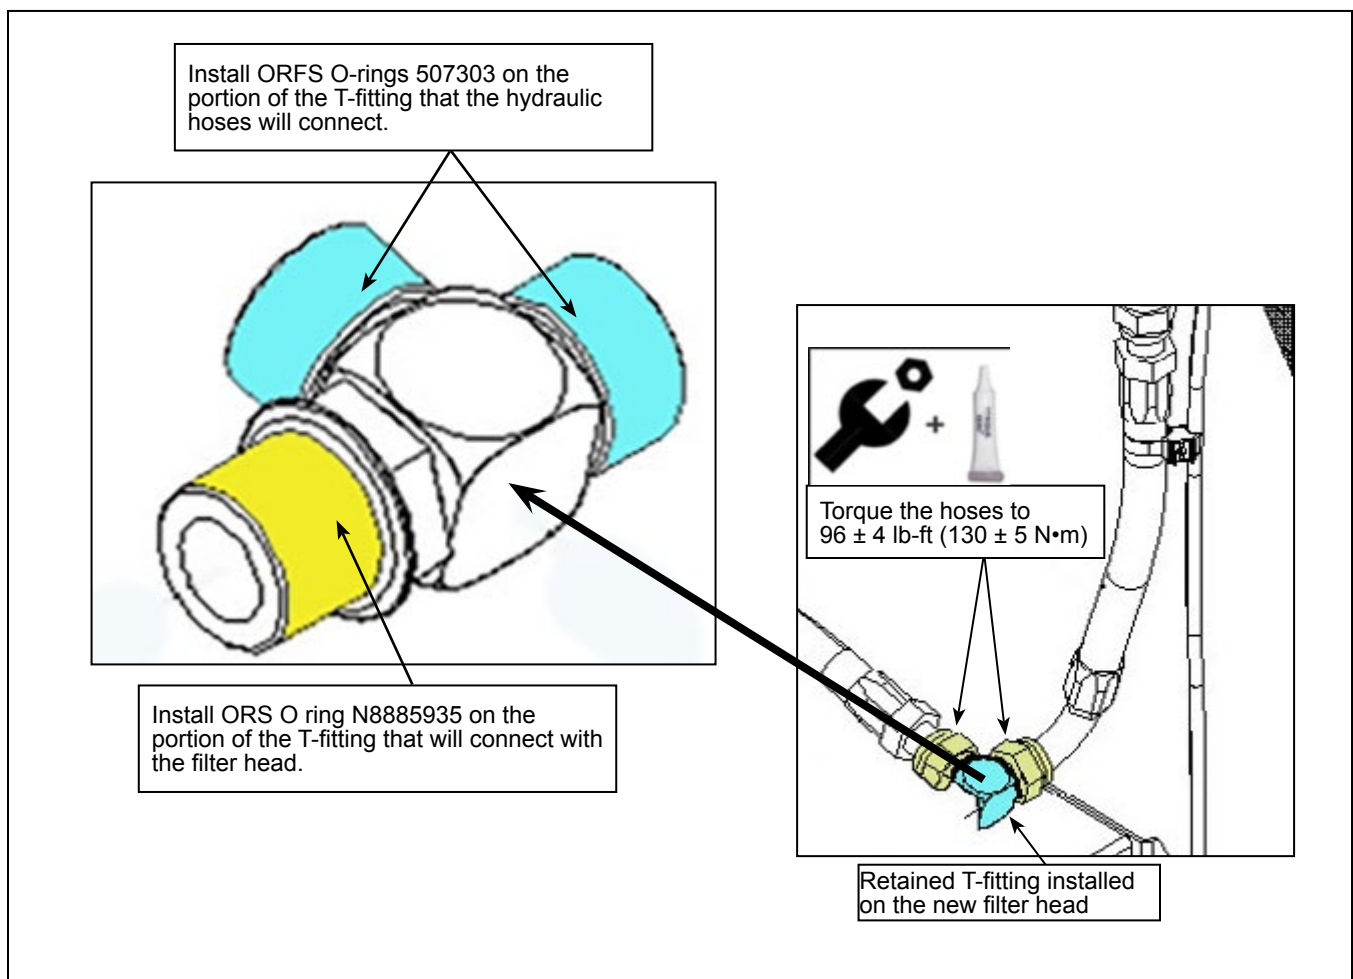

Figure 7 - O ring and Torque Value of the T-fitting
- 1.37. Install the ORS O ring N8885935 and the ORFS O-ring 507303. See Figure 7.
- 1.38. Install the retained hydraulic T-Fitting on the new filter head. See Figure 7.
- 1.39. Connect the hydraulic hose disconnected at step 1.11, to the hydraulic T-fitting on the filter head. See Figure 7 for torque value.